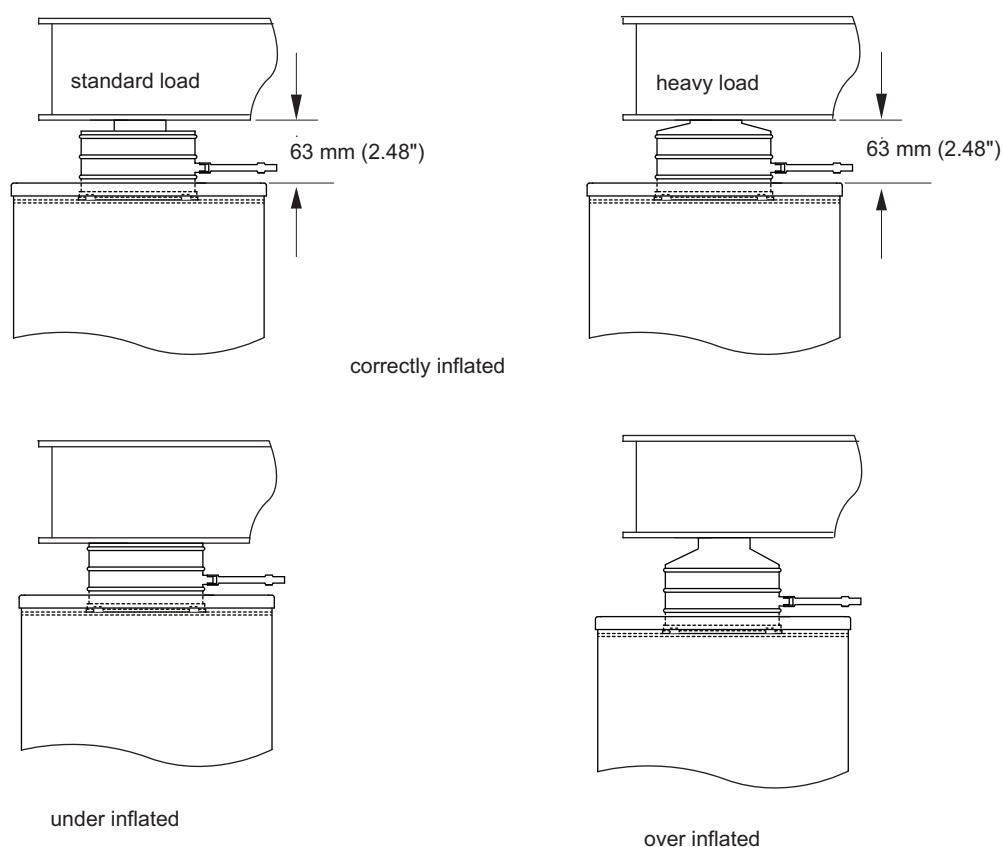

Fig. 3.4 Correct inflation of passive isolators
- 5) Repeat items (2) to (4) until all four isolators have a gap of 63 mm (2.48") between the top of the cylinder and the underside of the table – see Fig. 3.4.